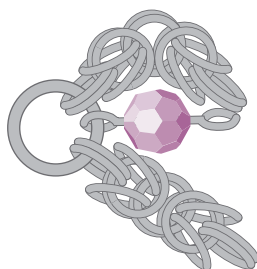

FIG. 2
4. Thread 1 Byzantine chain segment, 1 bead component, and then another Byzantine segment onto a large open jump ring. Close the jump ring (FIG. 2).